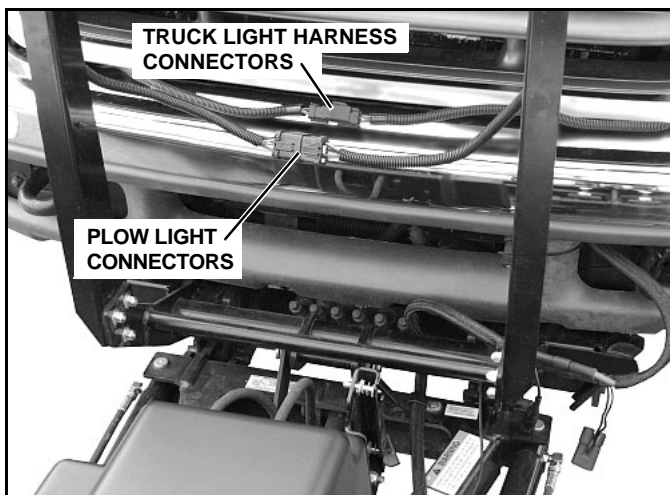

Figure 1-29
3. To prevent corrosion on the contacts, plug the male and female connectors on the plow light harness together. (See Figure 1-29).
4. To make the truck lights operable, plug the male and female connectors on the truck light harness together. (See Figure 1-29).